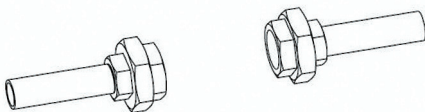

Fig.5-3 Meter Mounting Diagrammatic Sketch 3
- Cut apart the pipe at the point for meter mounting to leave the required mounting space for mounting meter and connecting fittings (Fig. 5-3).